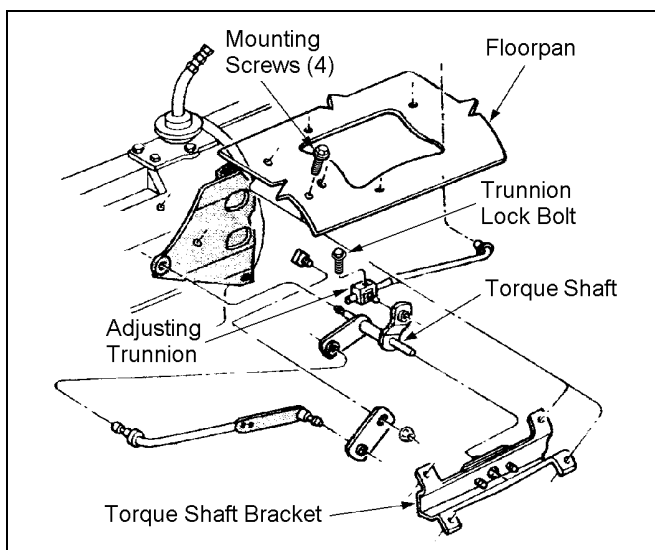

Figure 19
- 2) ☒ Remove the four screws that attach the torque shaft bracket to the floor pan. See figure 19.
- 4) ☒ Attach the shift relocating bracket 176090 to the torque shaft bracket as shown in figure 19. Use the hardware from kit 860160.